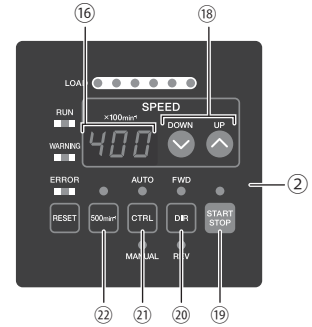

Fig. 24
### 15 - 1 Selecting Control Mode (MANUAL / AUTO). (Select the control button (CTRL) ⑳ of the Fig. 24.)
- (1) Using the CONTROL (CTRL) Button you can select between Manual (Front panel control) or Auto (External Signal Source) modes. External Signal Source can be used to control Motor Start / Stop, Rotation Direction, Motor Speed etc. from an external control source (CNC).
- (2) When operating with the CONTROLLER Control Panel, push the Control Button (CTRL) of Fig. 24 and select MANUAL. The Manual LED will illuminate.
When operating from an External Signal Source, push the Control Button (CTRL) of Fig. 24 and select AUTO. The AUTO LED will illuminate.
- (1) Set Motor Rotating Direction (Set the Rotation Direction Button (DIR) ⑳ of the Fig. 24.)
- (2) Set 500 min-1 (rpm) Centering Rotation (Set the 500 min-1 Button ㉒ of the Fig. 24.)
- (3) Motor Start / Stop (Motor Start / Stop by pushing the Start / Stop Button (START / STOP) ⑲ of the Fig. 24.)
- (4) Setting Motor Speed (Set the Motor Speed Adjustment Button (SPEED Ⓐ , Ⓑ ) ⑱ of the Fig. 24.)
Setting parameter  $P2$  to  $Gn$  will allow the motor speed to be adjusted in Auto Mode using the Motor Speed Adjustment Button (SPEED  $\blacktriangle$ ,  $\blacktriangledown$ )  $\textcircled{18}$  of the Fig. 24.